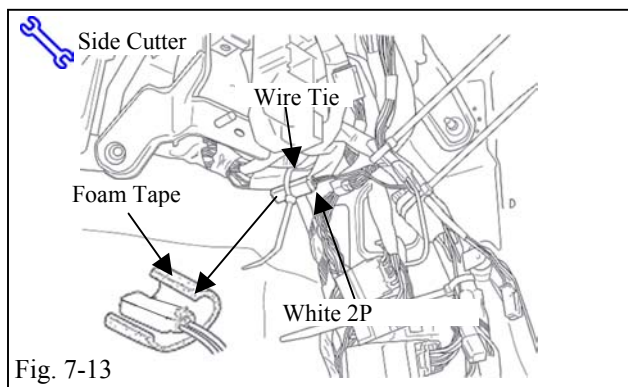

Fig. 7-13
- (n) Wrap the RES harness' 2P connector (female) with one small foam tape, and secure the 2P connector to the vehicle harness with one wire tie.(Fig. 7-13)